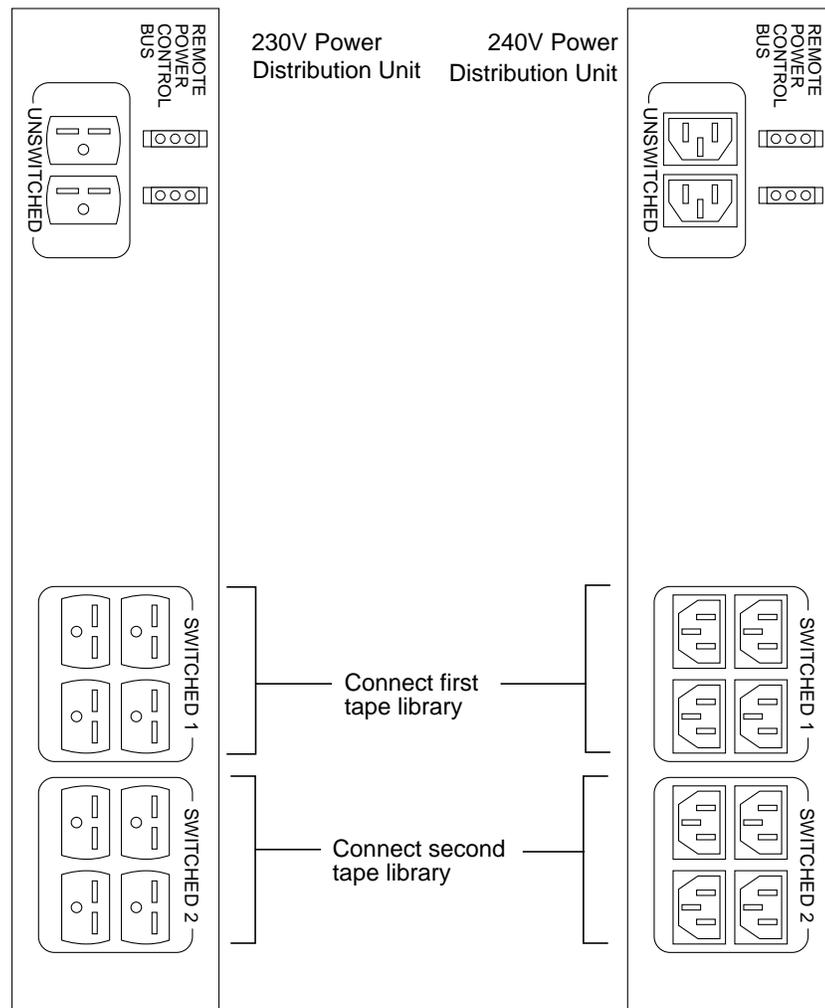

FIGURE 4-12 Power Distribution Unit
5. Plug the power cord for the tape library into the power distribution unit (FIGURE 4-12).